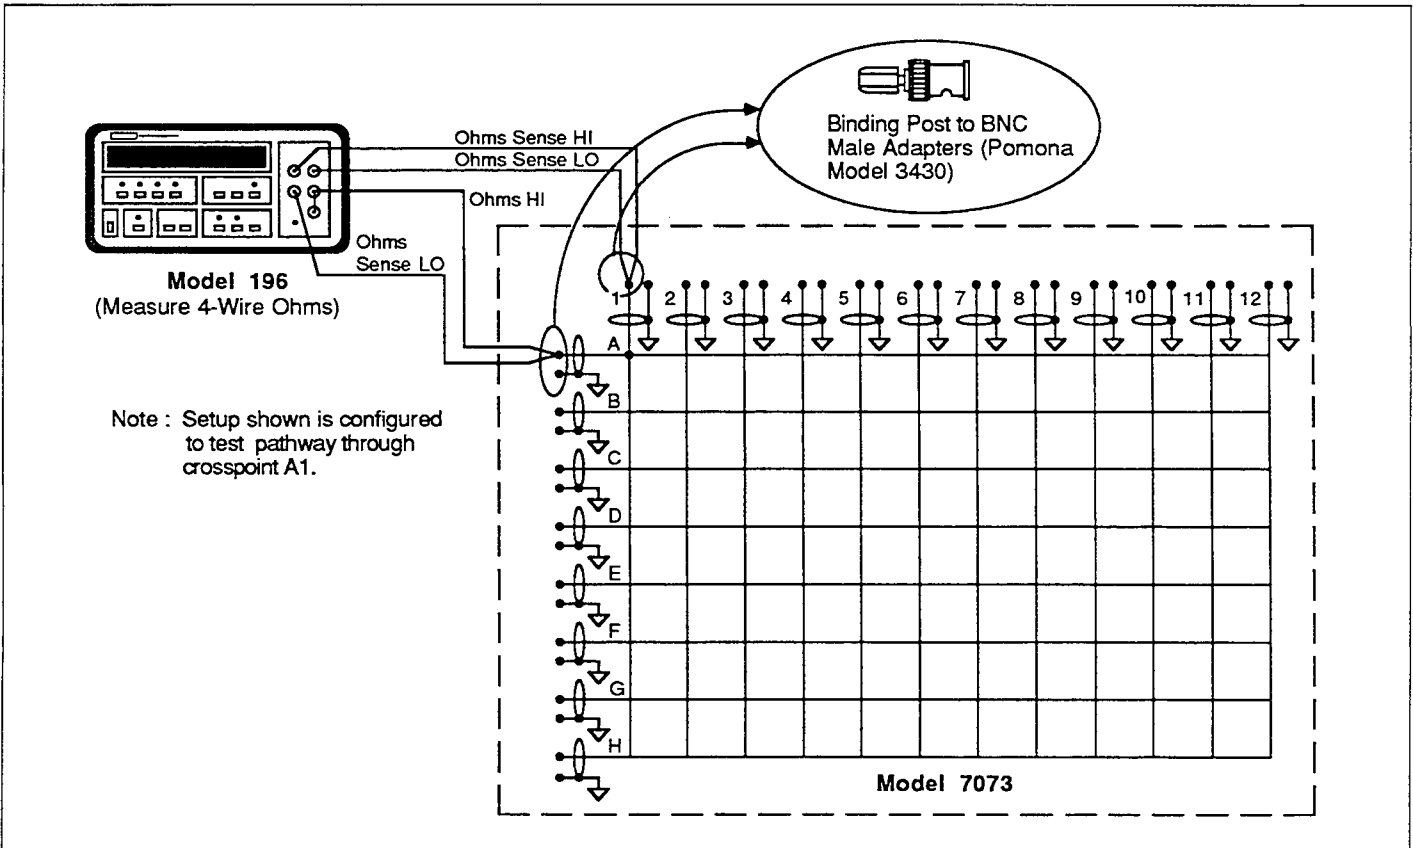

Figure 4-2. Path Resistance Testing
Referring to Figure 4-2, perform the following steps to verify that the contact of each relay is closing properly and that the resistance is within specification.
5. Connect the Model 196 to the matrix card as shown in Figure 4-2 and turn on the Model 707.